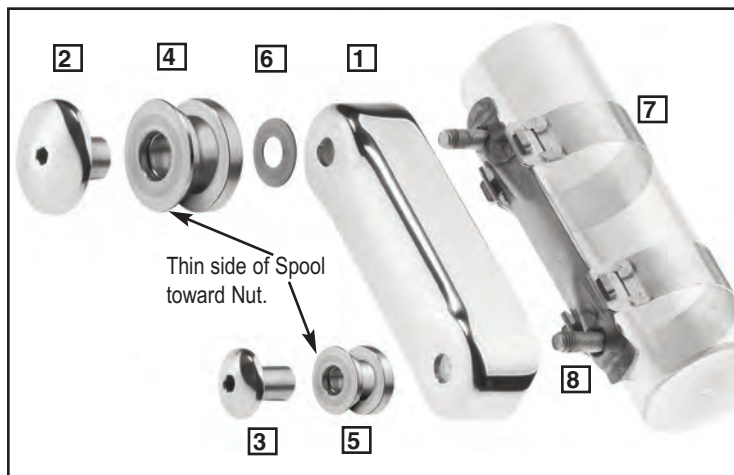

Figure 1.
4. Position the Mounting Cup (1) onto the Spider Bracket so the studs protrude from the holes in the Mounting Cup. **Figure 1, page 1.**
5. Place a Brass Washer (6) onto the top stud. **Figure 1.**
6. Push the large Upper Nut (2) into the large Upper Spool (4) so the **thin side** of the spool is near the head of the Upper Nut. **Figure 1.**
8. Assemble the Lower Spool (5) and Lower Nut (3) so the **thin side** of the Spool is near the head of the Lower Nut.